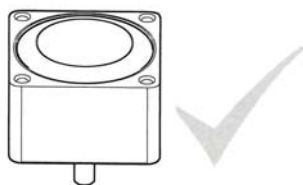

Figure 17.
1. Keep the output shaft downwards when storing the gearhead. (Figure 17)